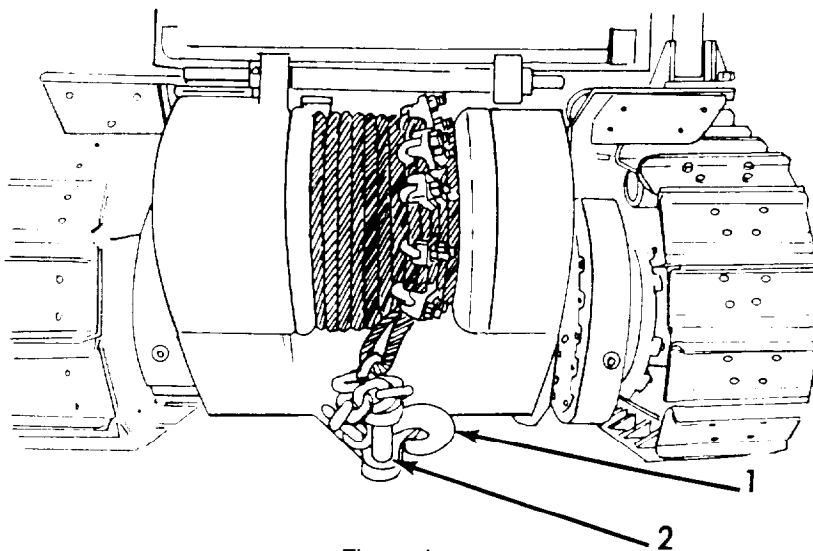

Figure 4.
10. Place winchline tail chain hook (1) through pintle (2) to secure when not in use. (Figure 4).